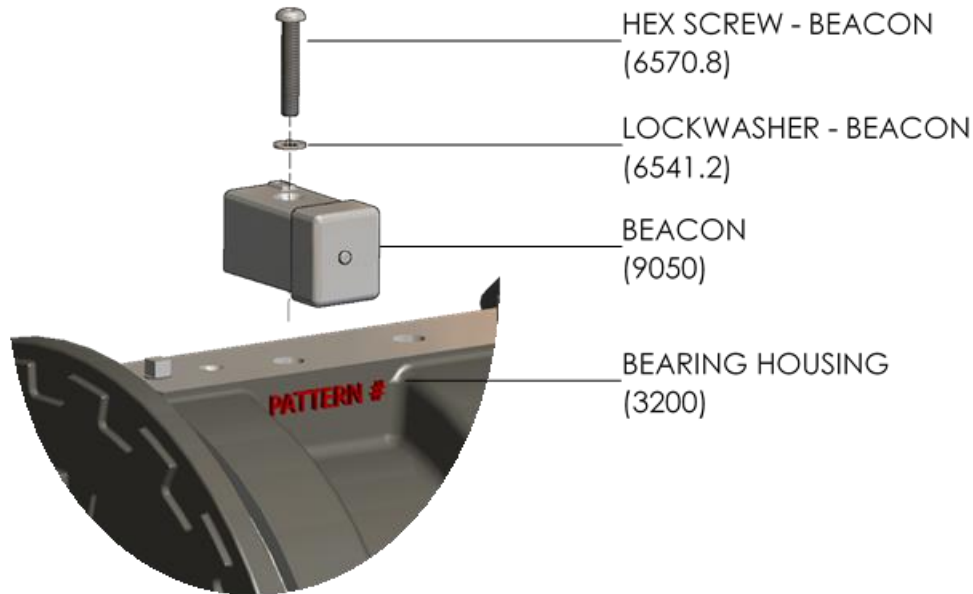

Figure 56: Beacon Assembly (Optional)
8. The pump assembly is now complete. The (optional) IPS Beacon™ 2 [9050] can now be installed. A plastic thread protector or screw may be in the Beacon mounting threads. Remove if either is present. Attach the Beacon with button socket head cap screw [6570.8] and lock washer [6541.2]. Torque to value show in Table 21: *Torque Requirements*. See Figure 56